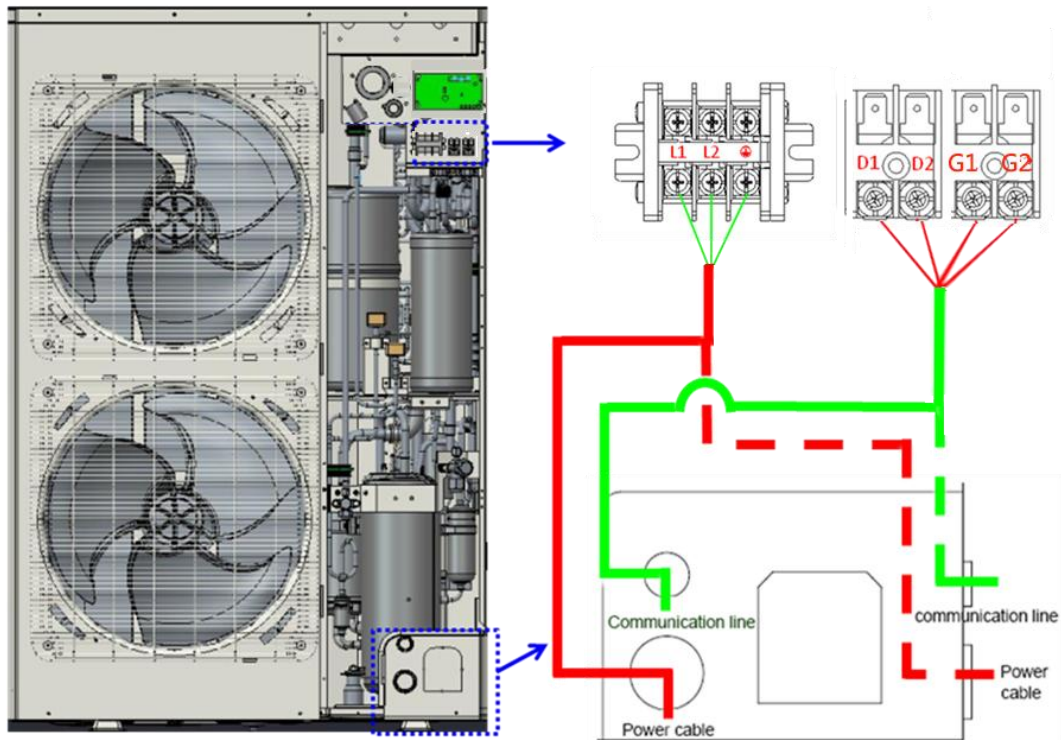

Fig.28
- (1) Open the side plate.
- (2) Connect the power cord to the terminals “L1”, “L2” and also the earthing screw, and then connect the communication line “D1,D2” of the indoor unit to those of the outdoor unit correspondingly. The communication line “G1, G2” could be used to connect the remote monitor. Please use the bonding screw to connect the earthing cord. The location is showing in the Fig.28.
- (3) Fix the power cord and communication line with wire clips.
- (4) Let the power cord and communication line go through the rubber ring.